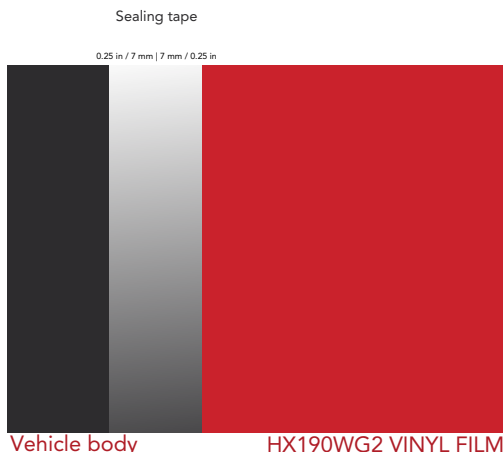

Fig.25
- › Apply the strips with an overlap of approx. 7 mm (¼ in) on the vehicle body and 7 mm (¼ in) over the HX190WG2 film (FIG. 25).